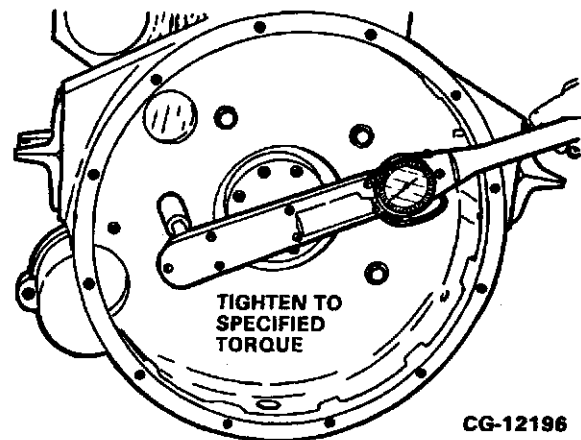

Figure 7.81. Tighten Flywheel Housing Bolts
- b. Install the flywheel housing on the crankcase locating dowels and tighten the mounting bolts to the specified torque. Refer to Figure 7.81.